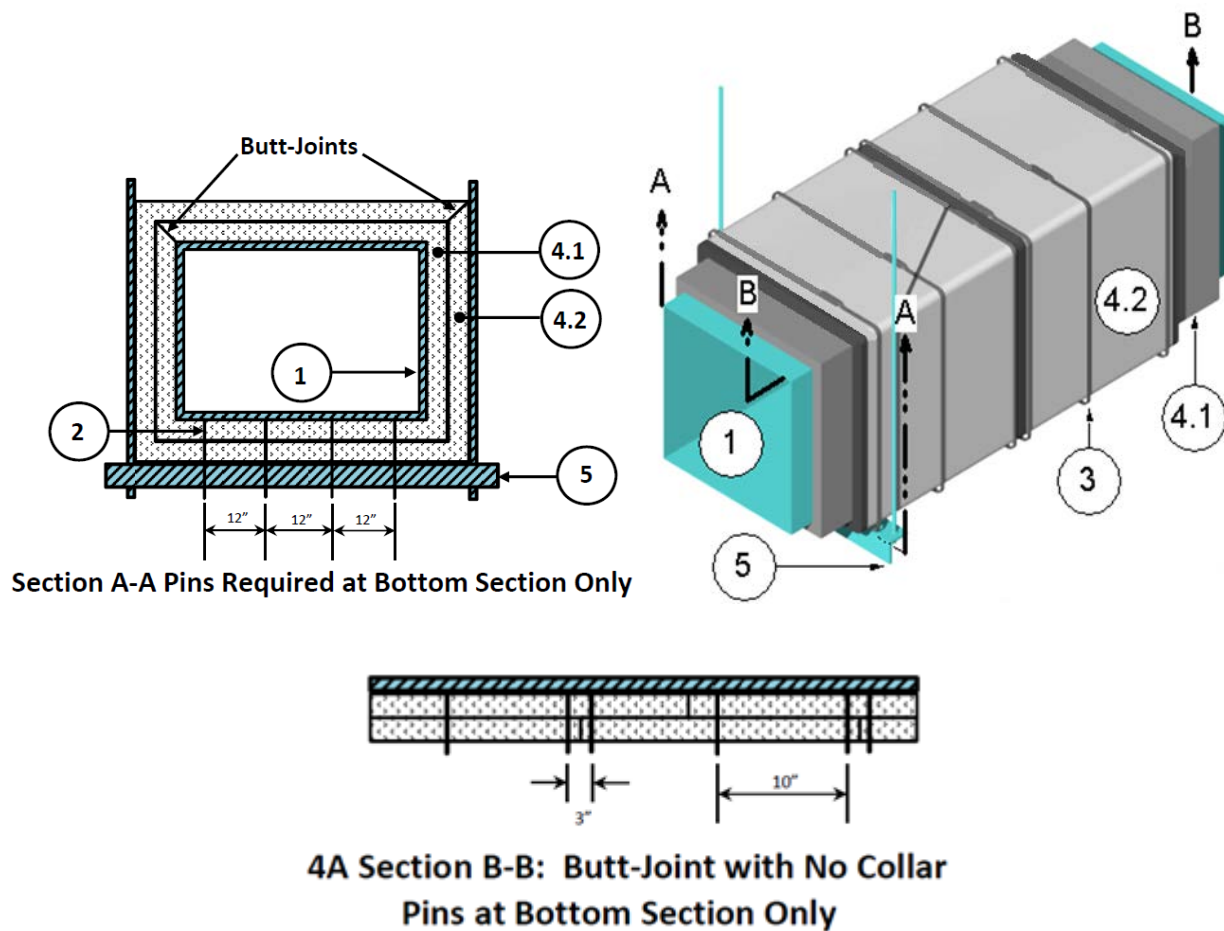

Figure 1
2. **PINS:** (Not required when grease duct (Item 1) width and height are both less than or equal to 24 in.) Refer to Figure 1. Use min. 12 GA, 5 in. long, steel insulation pins or min. 12 GA, steel cup head insulation pins. Weld pins to the grease duct (Item 1) before application of first layer of duct insulation (Item 4).
- A. **BUTT JOINT (No Collar)** – Refer to Figure 1, 4A Section B-B. Locate pins on the bottom side of the grease duct (Item 1), and meet the following requirements:
- i. Space pins max. 12 in. apart in rows parallel to the longitudinal axis of the grease duct (Item 1). Locate pins max. 6 in. from sides or edges of the grease duct (Item 1). Refer to Figure 1, Section A-A.
- ii. Space pins 3 in. apart centered directly over each outer layer transverse joint, and a max. 10 in. apart elsewhere along the length of the grease duct (Item 1). Refer to Figure 1, 4A Section B-B.
**DUCT INSULATION:** Apply two layers of the nominal 1-1/2 in. thick, 6 pcf density duct insulation over the entire surface of the grease duct (Item 1). Apply both layers of duct insulation with transverse and longitudinal joints butted to form a 1 in. compressed butt joint (created using an initial 1 in. overlap). Locate inner layer longitudinal joints (Figure 1, 4.1) at a corner of the grease duct (Item 1). Offset the outer layer joint (Figure 1, 4.2) to a different corner. Use blanket, available in various widths, that is fully encapsulated with a polypropylene-foil scrim. Cover all visually-exposed ends and edges of duct insulation with nominal 3 in. wide aluminum foil tape.